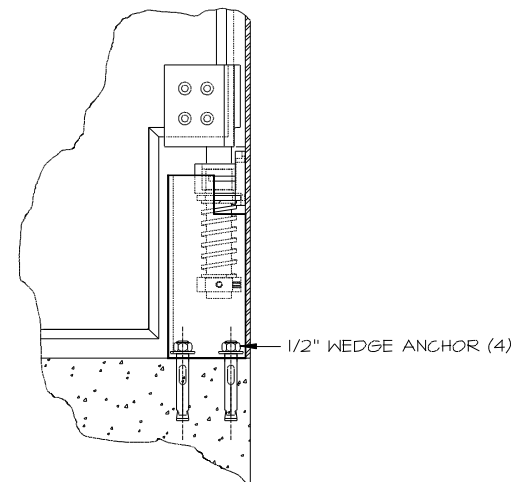

FIG. 7
- b. **Jamb mounted jamb guard** (Figure 7)